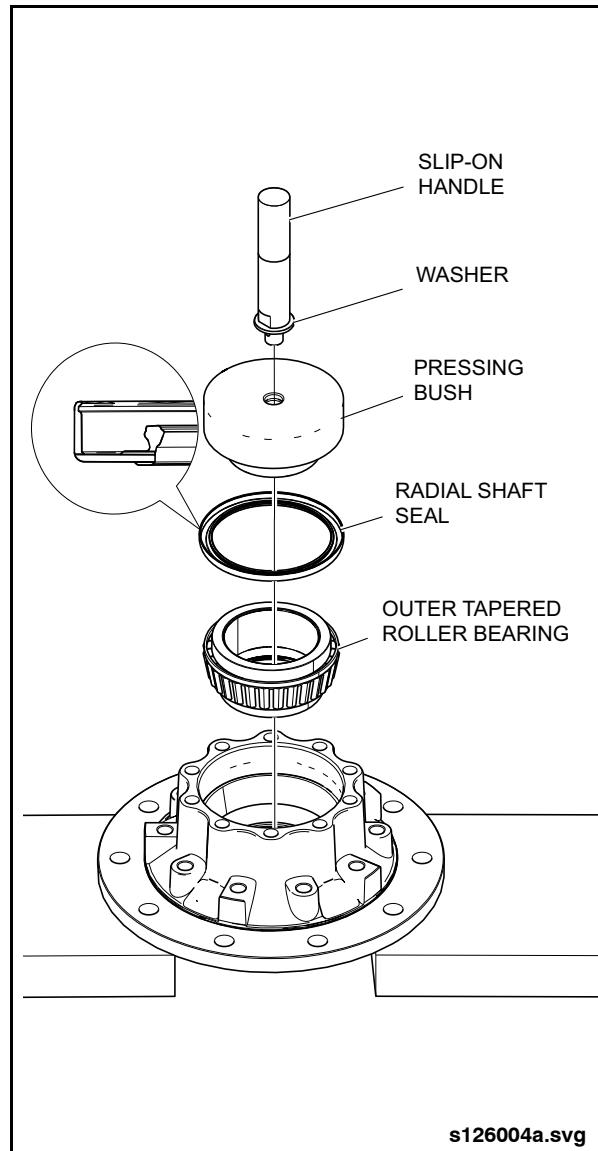

Fig. 2-28: Installing Outer Tapered Roller Bearing
1. Insert the tapered roller bearing into the wheel hub. See "Fig. 2-28: Installing Outer Tapered Roller Bearing" on page 28.